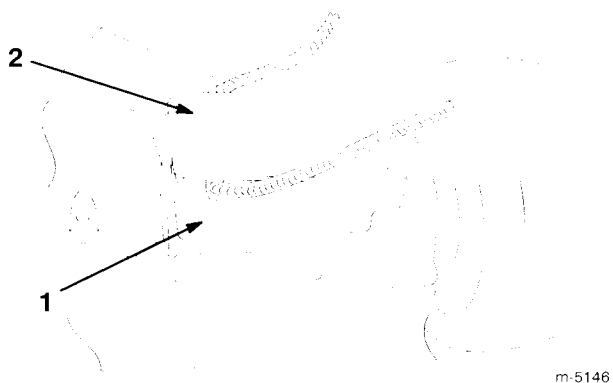

Figure 4
1. Remove the battery box cover (Fig. 4).